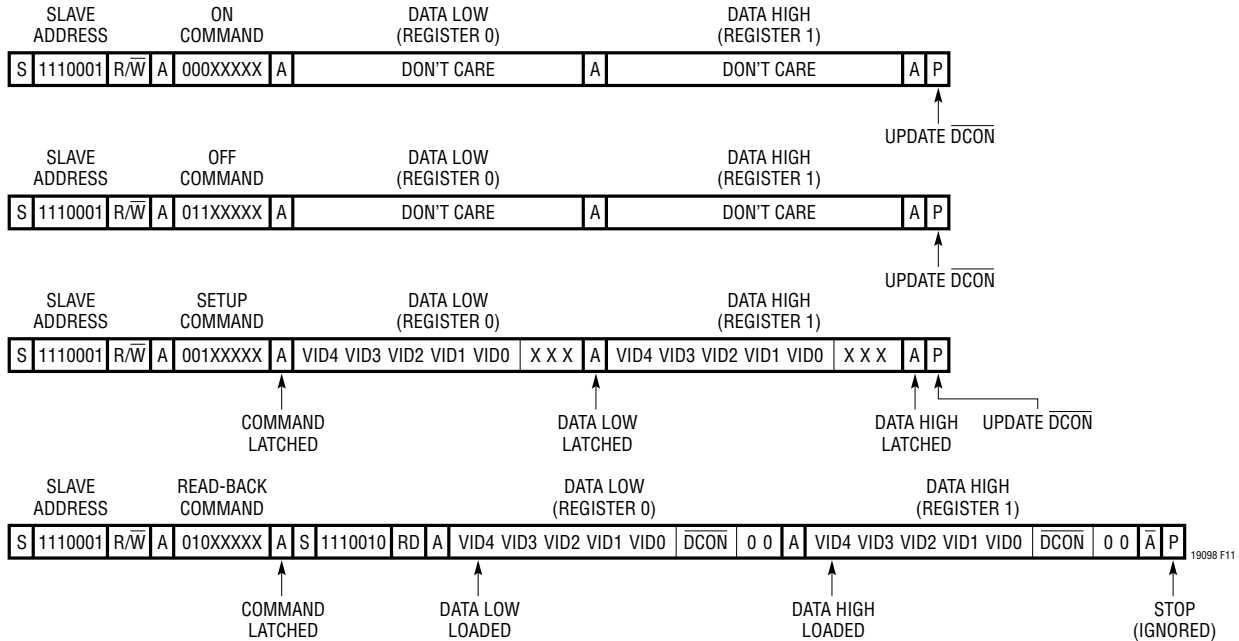

Figure 11. Write Word and Read Word Protocols
The Write Word and Read Word protocols (Figure 11) share three common features. First, the 7-bit slave address for both protocols is internally hardwired to $1110001\text{B} = \text{E2H}$. A single R/W bit follows the slave address. This bit is low for data transfer from the microprocessor to the LTC1909-8 and high for transfers in the opposite direction.
Each Write Word protocol (Figure 11) begins with a start bit (S) and ends with a stop bit (P). As shown in the Timing Diagram the start and stop bits are defined as high-to-low and low-to-high SDA transitions respectively, while SCL is high. In between the start and stop bits, the microprocessor transmits four bytes to the LTC1909-8. These are the address byte, an 8-bit command code and two data bytes. The LTC1909-8 samples each bit at the rising edges of the SCL clock.